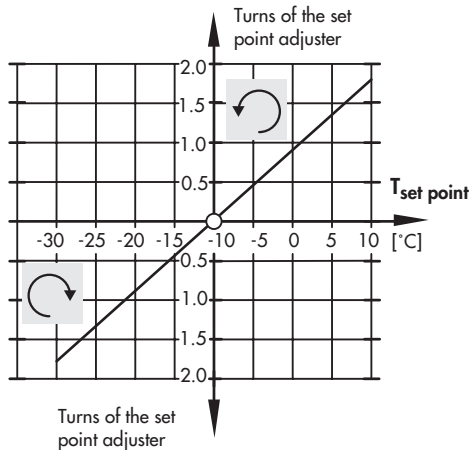

Fig. 4 · Adjustment diagram at a set point temperature  $T_{\text{set point}} = -10\text{ °C}$  (point at which regulator starts to close)
Use the adjustment diagram (Fig. 4) as a guide to change the set point temperature from the default setting. One turn of the set point adjuster corresponds to a change in set point temperature of approx. 13 K.
- ▶ Turn the set point adjuster (3) counter-clockwise until the flow noise inside the regulator ceases, i.e. the valve is closed.
- ▶ Divide the calculated temperature difference by 13. The result shows how many turns of the set point adjuster (Fig. 4) are required.
- ▶ Lock set point adjuster (3) with the lock nut (3.2) and screw cap (3.2) back on.
Body connection	G 1¼ (see Fig. 4 for connecting parts)